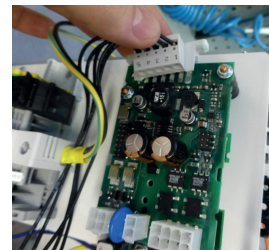

Fig. 4.a
- Disconnect the Lumberg (see Fig. 4.a) connector on the control board;
- Plug the Lumberg connector (see Fig. 4.a) onto the board, making sure it is inserted in the correct direction;
If the humidifier is disabled (contact ON-OFF open, see Fig. 4.d), the display shows "---" alternatively to the main screen (LED signal: Standby). If the display shows "----", it means a communication error between display and humidifier: control connection cable. If problem persists, call 800 729-5192